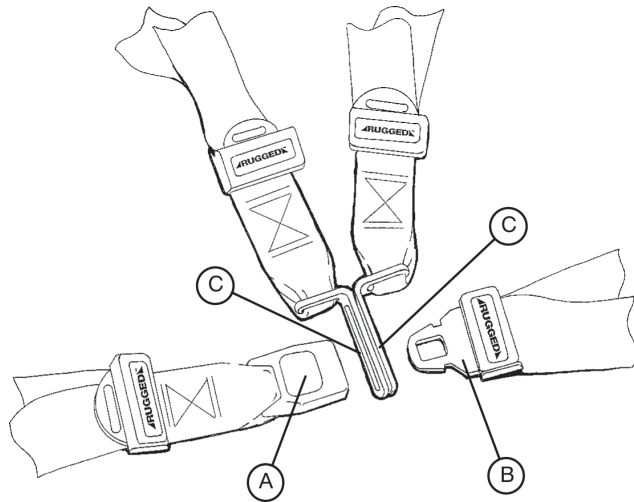

Figure 17 - Buckling the Safety Restraints
1. Press the red button (A) on the front of the buckle “receiver”.
2. This releases the buckle latch plate (B) which can then be pulled out of the receiver (Fig. 17).
2. When fastening the chest restraint ensure the latch plate passes through both links (C) on the shoulder strap (Fig. 17).